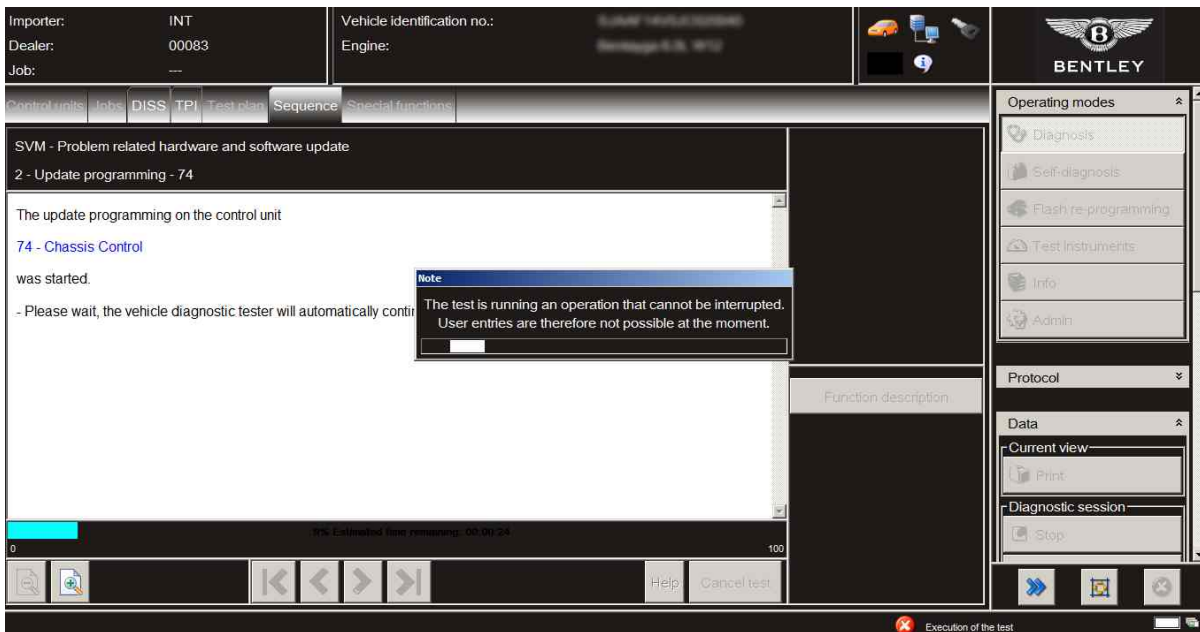

Figure 6
14. During the update a progress bar will be displayed (Figure 6)